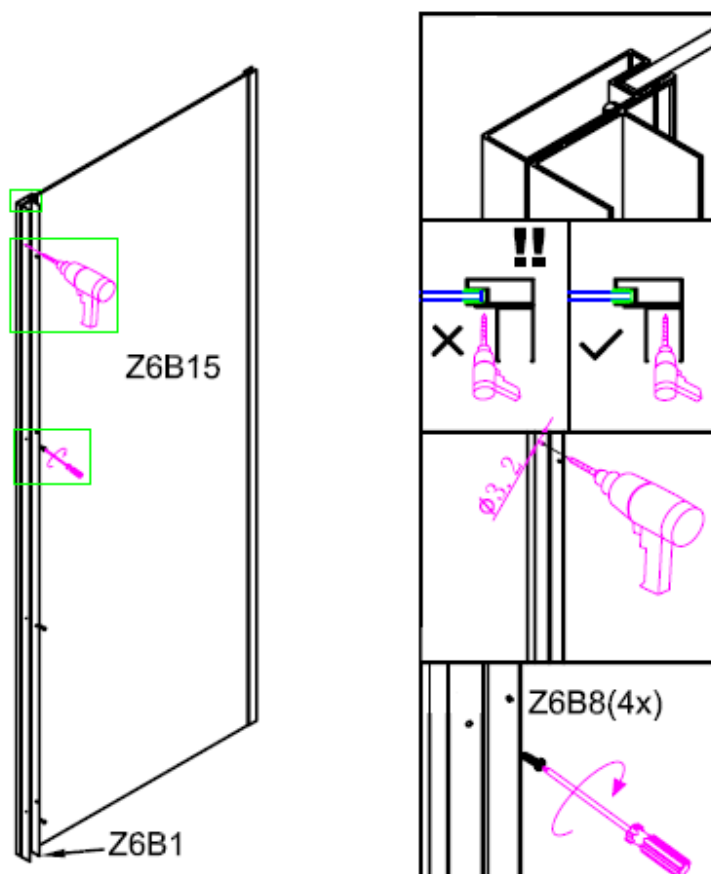

Figure 5
5. Connect the wall profile(Z6B1) on the door side to the side panel(Z6B15) by using screw(Z6B8) as showed in figure 5.